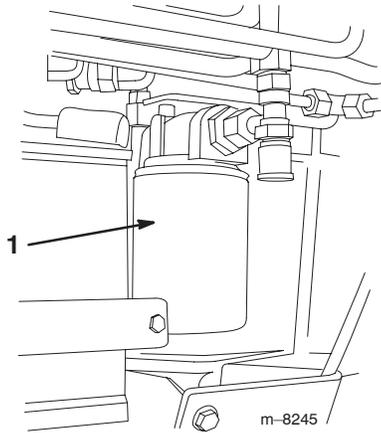

Figure 44
4. Place a drain pan under the filter (Fig. 44).
5. Remove the old filter (Fig. 44) and wipe the surface of the filter adapter gasket clean.
7. Install the replacement hydraulic filter onto the filter adapter (Fig. 44). Tighten it clockwise until the rubber gasket contacts the filter adapter, then tighten the filter an additional 3/4 turn.